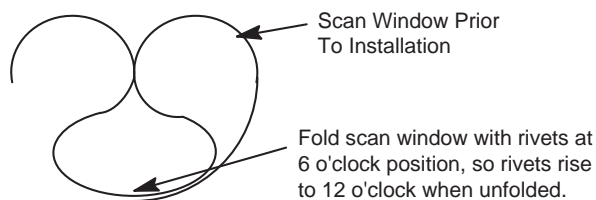
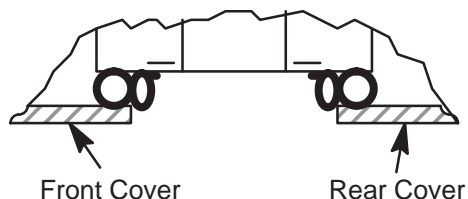

Figure 4-6 Install Scan Window
Figure 4-7 Scan Window Nested Between Front and Rear Cover
- 1.) Shape the scan window as shown in Figure 4-6, and nest the scan window at the bottom of the opening between the front and rear covers, (Figure 4-7) with the rivets in the 6 o'clock position. Remember the rivets must be in the 12 o'clock position when the mylar window is fully installed.